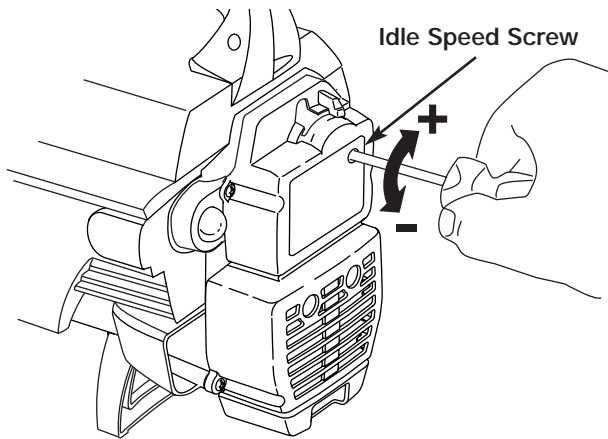

FIGURE 38
The idle speed of the engine is adjustable through the air filter/muffler cover, Figure 38.
2. Release the throttle trigger and let the engine idle. If the engine stops, insert a small phillips or flat blade screwdriver into the hole in the air filter/muffler cover, Figure 38. Turn the idle speed screw in, **clockwise**, 1/8 of a turn at a time (as needed) until the engine idles smoothly.